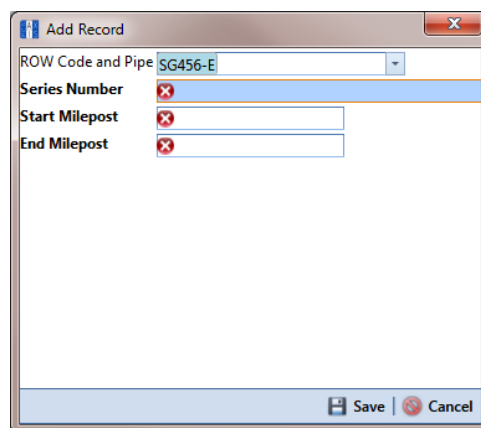

Figure 3-68. Add Record
- Click **Save** to display required field(s) for data entry. Required fields are identified with the **✖** icon, such as *Series Number*, *Start Milepost*, and *End Milepost* in the next figure (Figure 3-68).